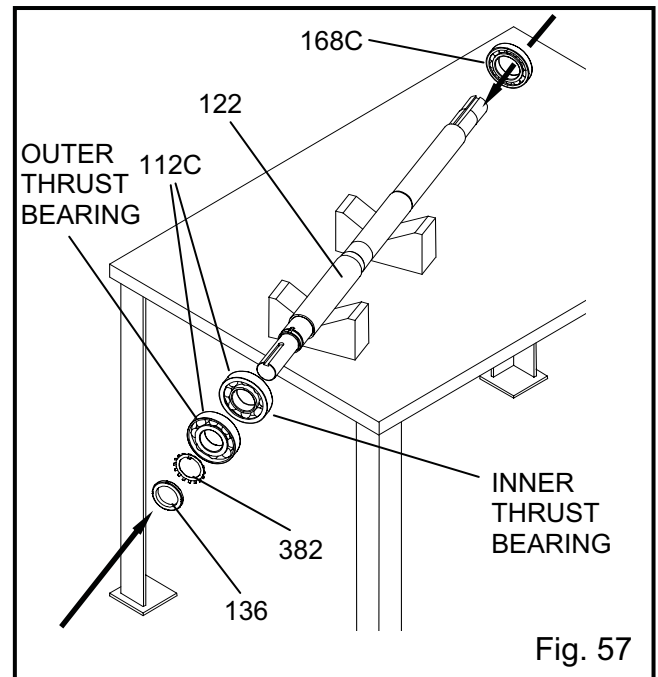

Fig. 57
1. Heat the inboard radial bearing (168C) to 225°F using an induction heater. Slide the bearing onto the impeller end of the shaft (122), push it on until it rests flush and square against the shaft shoulder, see Fig. 57 and the sectional drawing at the end of this section.